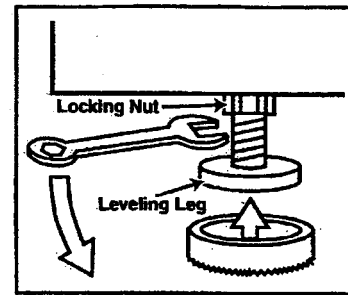

Figure 1-3
2. Tip washer slightly forward. Loosen rear leveling leg lock nuts. Tip washer back slightly to loosen front leveling leg lock nuts (**Figure 1-3**).
5. Install the rubber feet, found in the installation package, on all 4 legs (**Figure 1-3**).